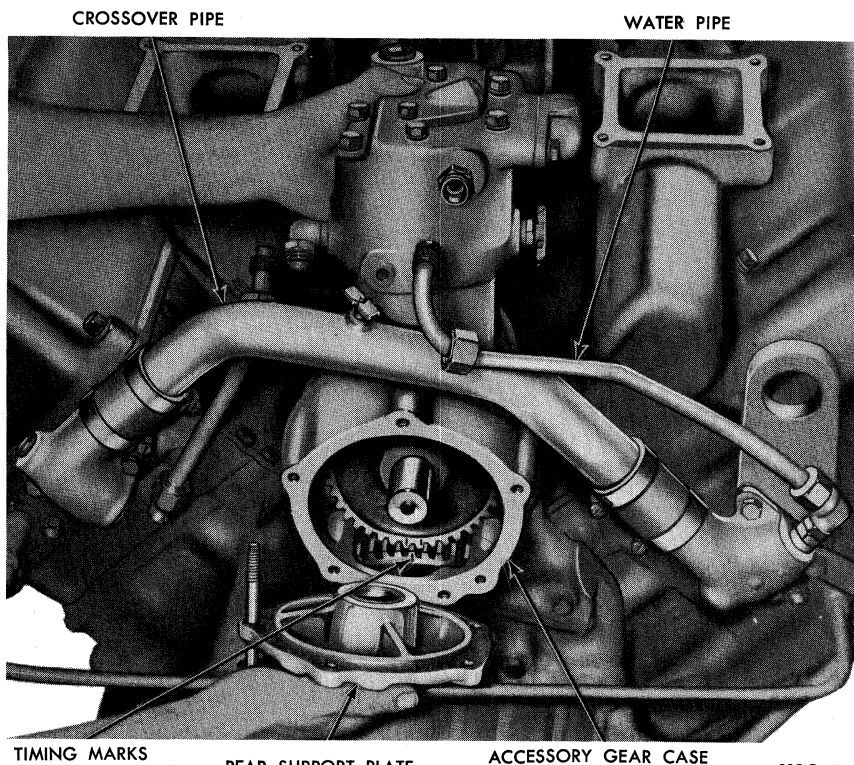

FIG. 12—Removing or Installing V-6 Air Compressor—H-Series Typical of F-, T-, and N-Series
the crossover pipe because the crossover pipe goes over the top of the accessory gear case as shown in Fig. 12.
plate and the compressor to the accessory gear case. Remove the rear support plate from the rear side of the gear case (Fig. 12), and remove the compressor from the front side of the gear case.
2. Position the air compressor with a new gasket to the front side of the gear case so that the timing marks on the air compressor drive gear are aligned with the marks on the camshaft gear (Fig. 12). Be sure that the gears mesh properly.
Brake Chamber and Slack Adjuster. Compressed air, admitted to the brake chamber by the foot control valve, enters the chamber behind a diaphragm which forces the push rod outward (Fig. 12). The outward movement of the push rod rotates the slack adjuster which in turn rotates the brake camshaft and cam forcing the shoes against the drum.